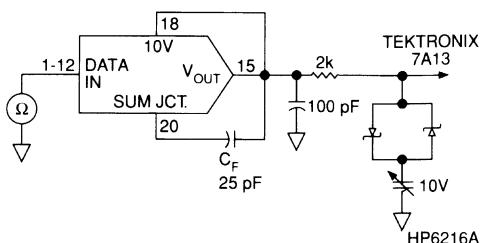

FIGURE 1
5. $C_F = 0$, see Figure 1.
Voltage Output. Three settling times are specified to $\pm 0.01\%$ of full scale range (FSR); two for maximum full scale range changes of 20V, 10V and one for a 1 LSB change. The 1 LSB change is measured at the major carry (0 1 1 1 . . . 11 to 1 0 0 0 . . . 00), the point at which the worst case settling time occurs. The settling time characteristic depends on the compensation capacitor selected, the optimum value is 25 pF as shown in Figure 1.
Gain and offset drift are minimized in the SP DAC87 because of the thermal tracking of the scaling resistors with other device components. Connections for various output voltage ranges are shown in Table III. Settling time is specified for a full scale range change: 4 microseconds for a 10 kΩ feedback resistor; 3 microseconds for a 5 kΩ feedback resistor when using the compensation capacitor shown in Figure 1.